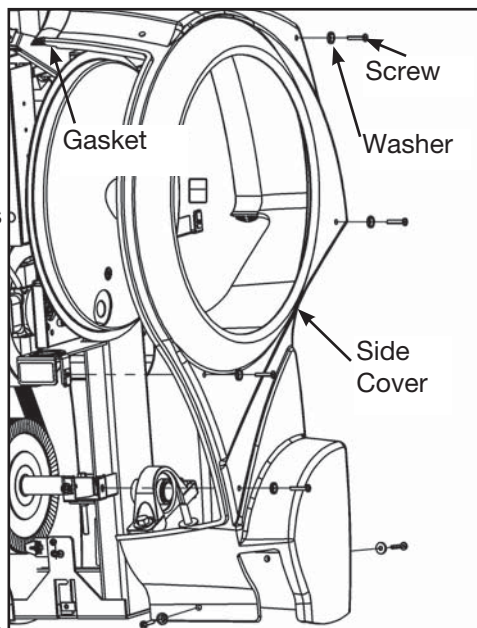

Figure 4
- A. Remove the six screws and six washers securing each side cover in place. See Figure 4.